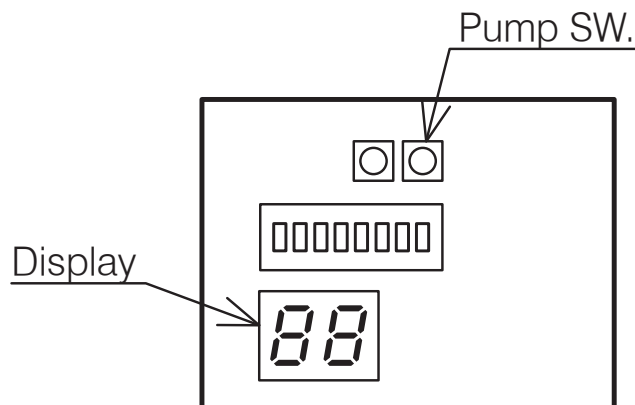

Figure 9-4: Water loading and air bleeding in the hydraulic circuit
- Press the Pump SW. Refer to Figure 9-4.